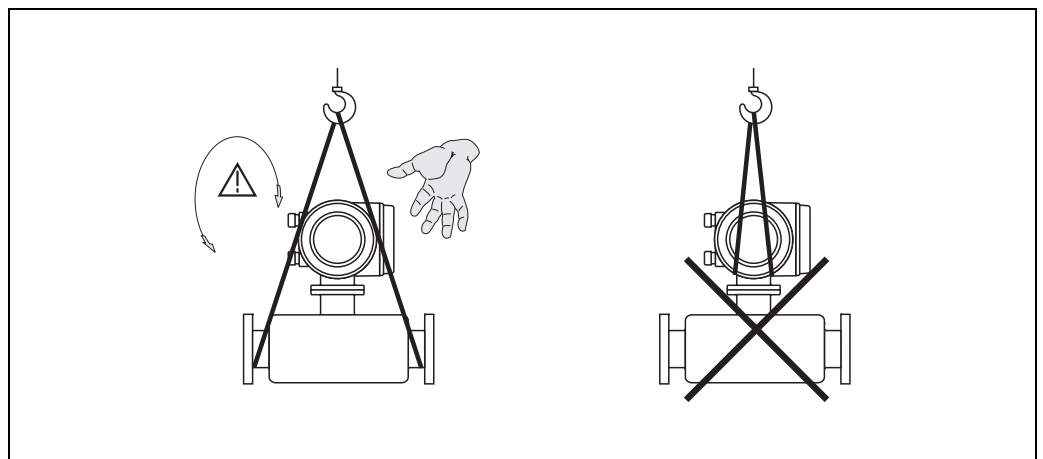

Fig. 5: Instructions for transporting sensors with DN 40 to 250
- Do not lift measuring devices of nominal diameters DN 40 to 250 by the transmitter housing or the connection housing in the case of the remote version (Fig. 5). Use webbing slings slung round the two process connections. Do not use chains, as they could damage the housing.